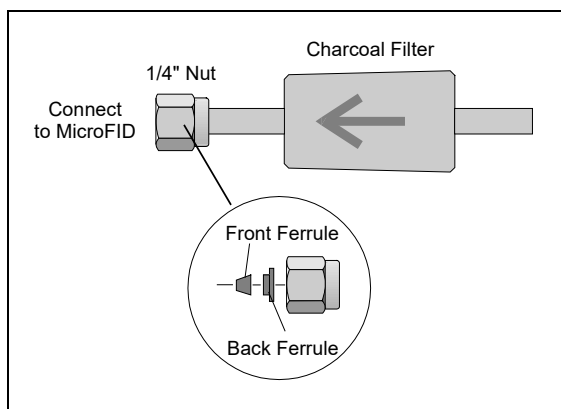

Figure 17 Connecting Charcoal Filter
1. Load the Teflon ferrules into the nut. The nut and ferrules are supplied with the filter. See *Figure 17*.